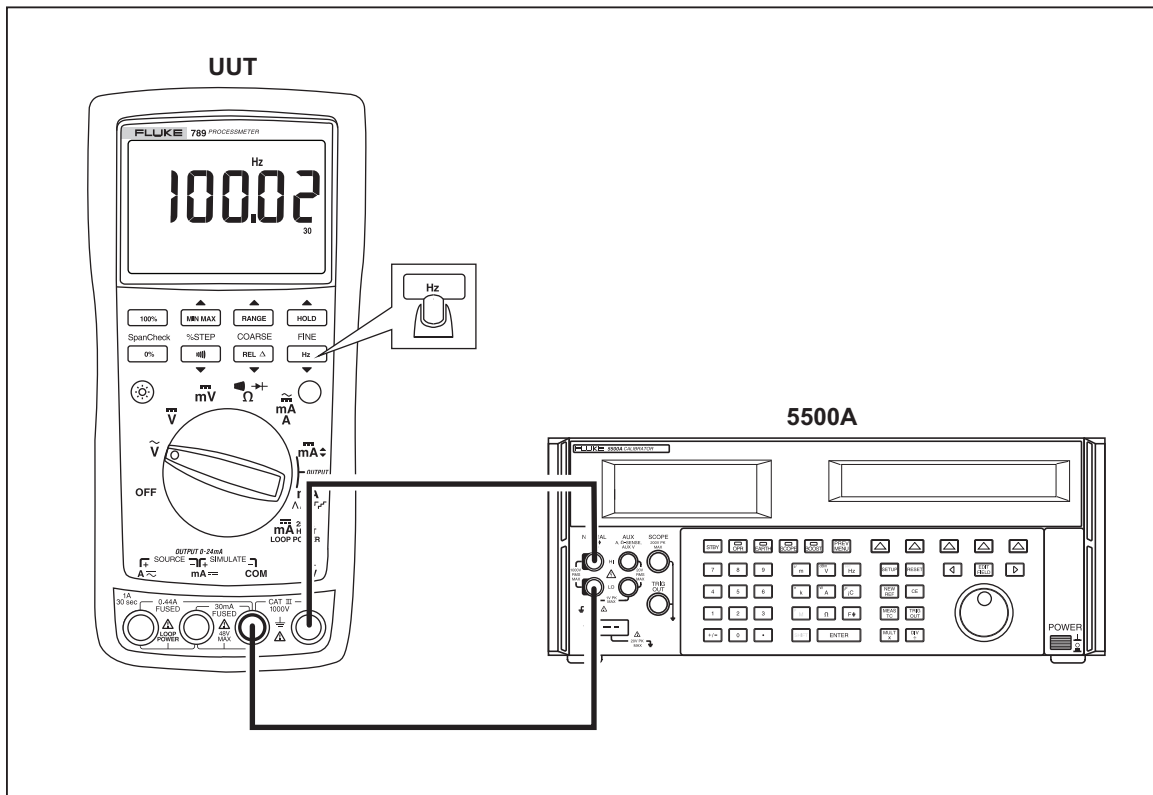

Figure 10. Frequency Measurement Test Connections
4. Connect the calibrator to the **COM** and ΩV^+ terminals on the UUT as shown in Figure 10.